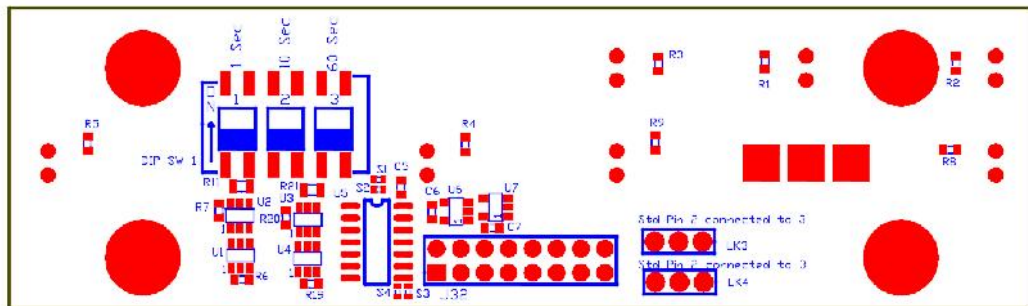

Figure 3
- The detection time in seconds can be adjusted for low frequency pulses. Set with DIP switch on LED board. Figure 3